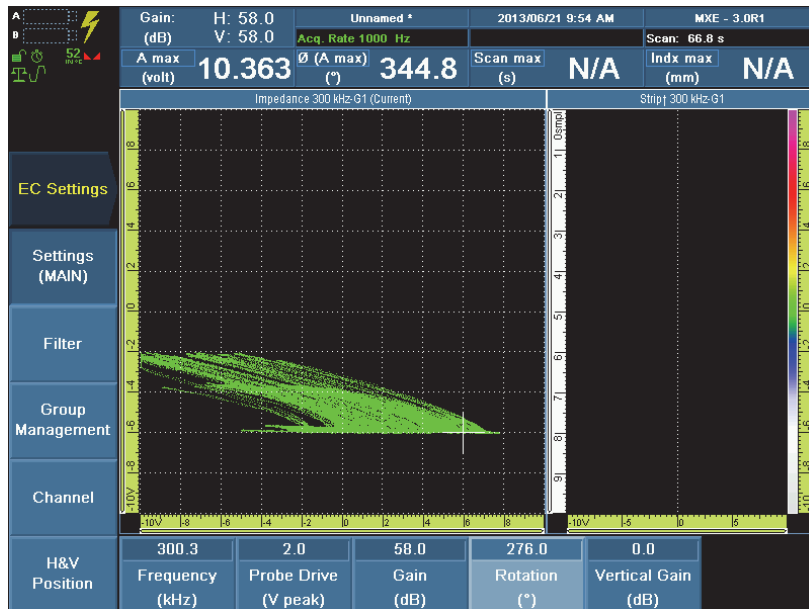

Figure 3-8 The signal amplitude reading field
3. Repetitively and gently lift off and put down the probe on the calibration standard and generate the lift-off signal (see Figure 3-8 on page 49).
3. Turn the Scroll knob until the signal amplitude reaches approximately half the impedance plane view horizontally or almost the entire impedance plane view vertically (see Figure 3-8 on page 49).